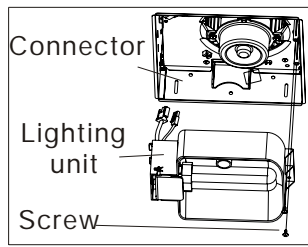

Fig.19
4. Insert the plug connector into the receptacle respectively, and attach the light unit to the fan unit with 2 screws (M4X10). (Fig.19)